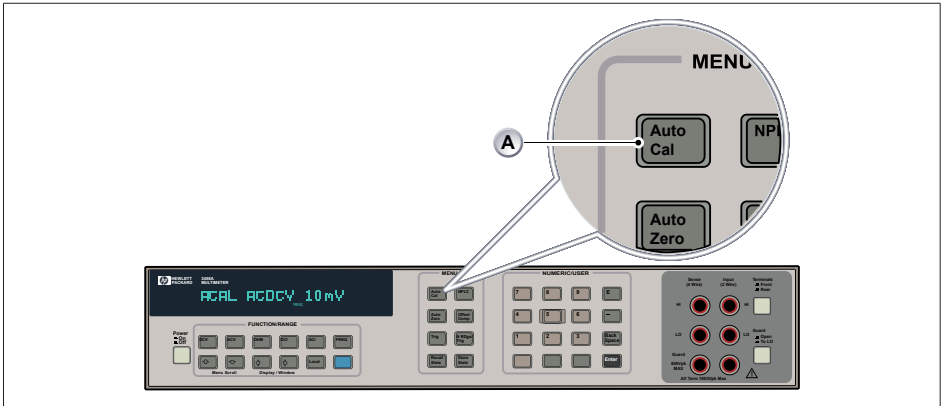

Fig. E.20 HP3458A Multimeter Zero calibration (Part 1)
2. Select the **Auto Cal** button (see Fig. E.20)
3. Select automatic calibration type with "Menu Scroll Down" button (see Fig. E.20)